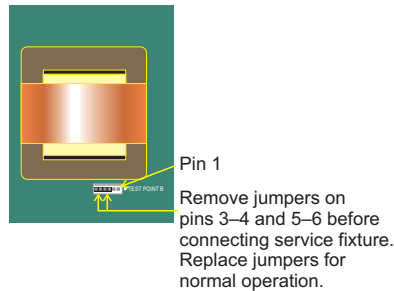

Figure 1.10. Jumpers to be removed from Test Point B
7. Locate the two test points on the amplifier's main circuit board. Test Point A is located near the output board, while Test Point B is in front of the power transformer (Figure 1.10).